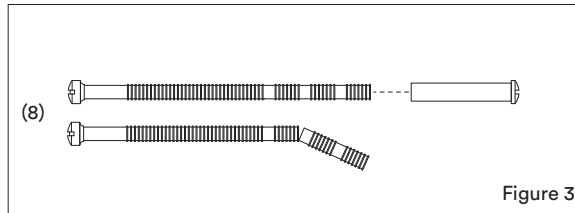

Figure 3.
- 3.1. If required, shorten tie bolts to suit door thickness. (Figure 3)